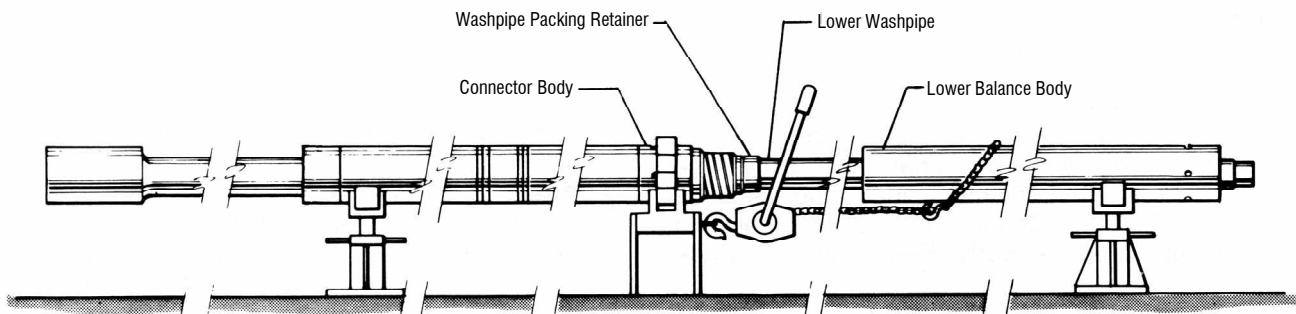

Figure 8
8. Take Washpipe Connector (54) from temporary position, which already has Lower Washpipe installed (see step 2), and make it up to Upper Washpipe. File down any burrs on the O.D. of the Connector.
NOTE: On newer style 4-3/4" O.D. tools, there is only one O-Ring at this connection. Before installing Lower Balance Body which forms a balance chamber, spray a water displacing oil over the Upper Washpipe from the internal balance ports up to the wiper of the Connector Body Packing Retainer. Then, using chain comealong, slide Lower Balance Body (47) over Washpipe Connector and make up to Connector Body. See Figure 8, page 13.